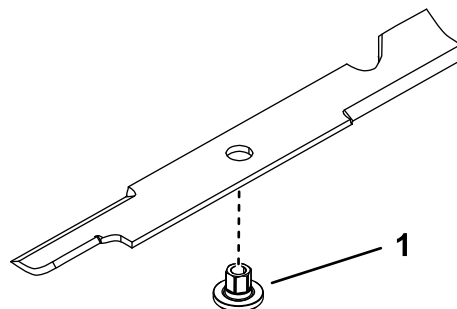

Figure 79
1. Install the bushing through the blade with the bushing flange on the bottom (grass) side of the blade (Figure 79).